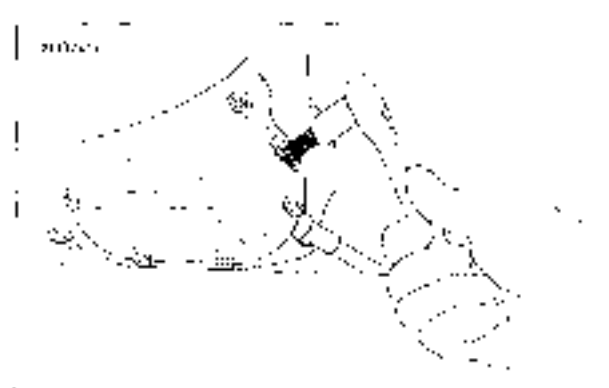

Figure 1-32. Transmission Lubricant Check/Fill
1. See Figure 1-32. Remove transmission filler plug.